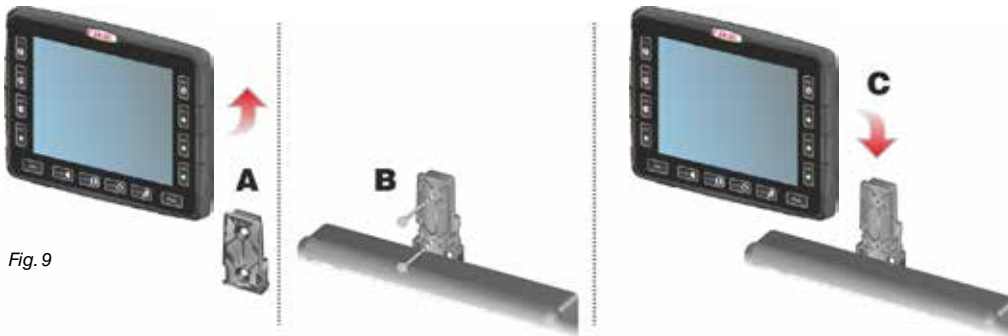

Fig. 9
The bracket must be slid out of the monitor seat (A, Fig. 9) and fixed using the supplied screws (B). Make sure the bracket is securely mounted, fit the monitor on it, and push it until it locks in place (C).